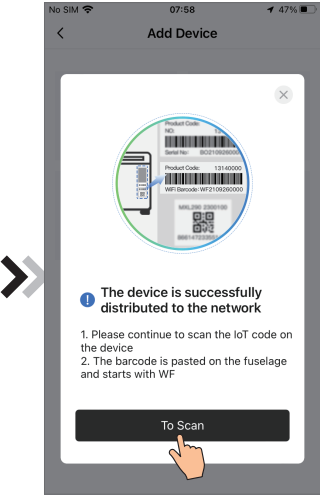

Fig.9 Bond device interface
4. Click "To Scan" ( Fig.9) to allow the App to use the camera for scanning the WF code on the WIFI module (Fig.11.1), or click "Manual input" to enter the WF code(Fig.11.2).